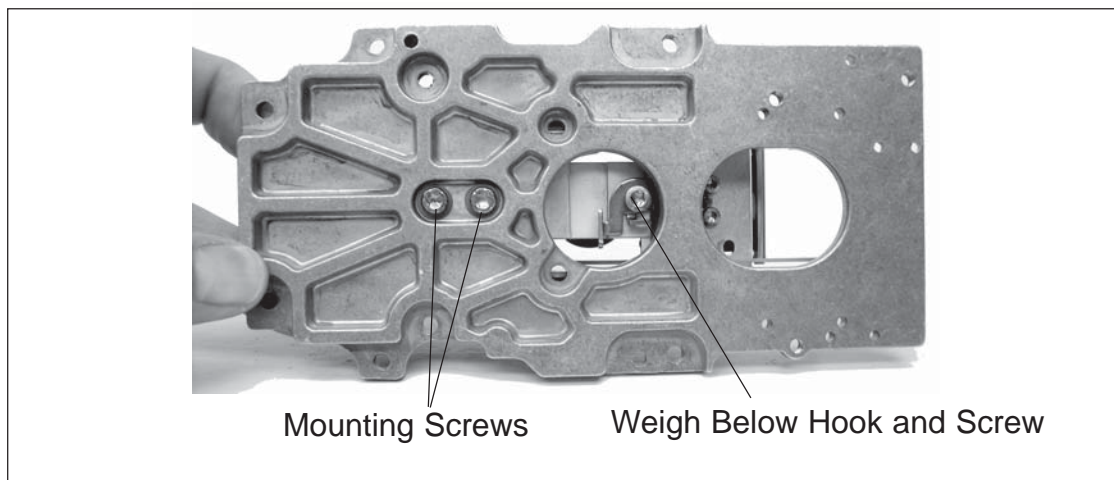

Figure 3-36. Base Plate Removal.
1. Refer to Figure 3-36 and remove the Weigh Below Hook and screw.